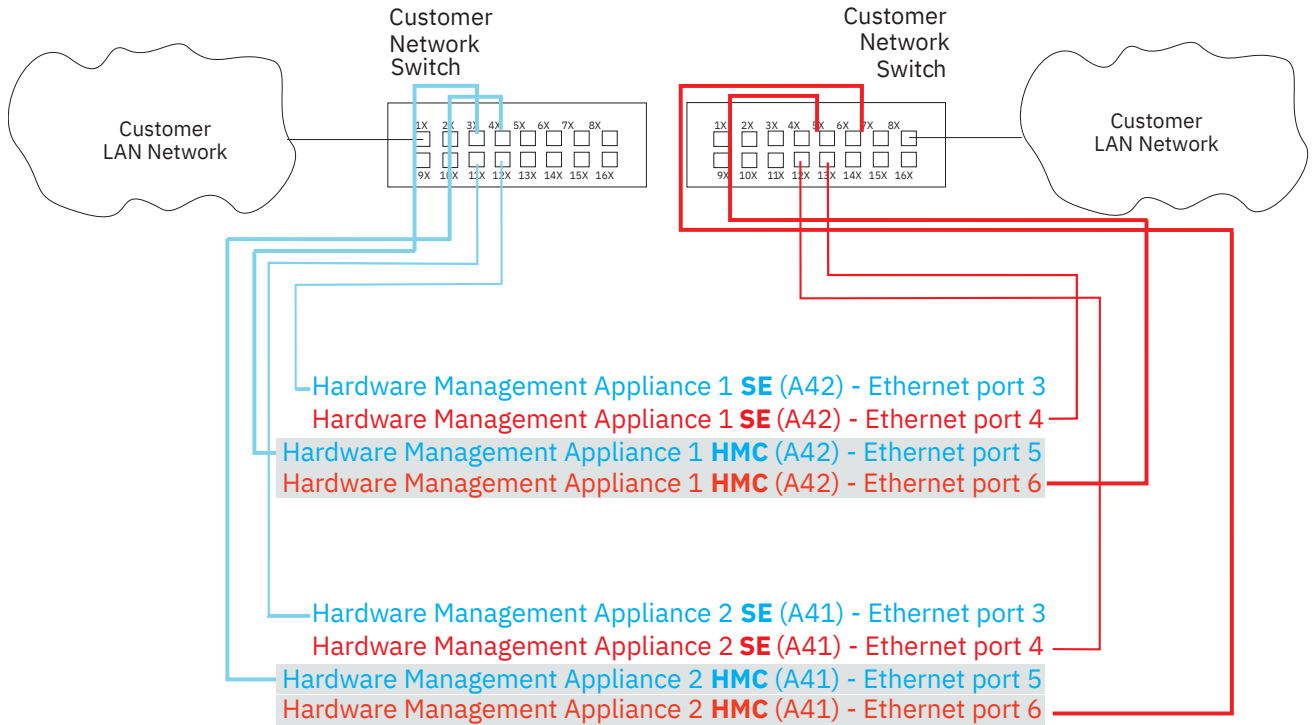

Figure 25. Two-switch configuration with Hardware Management Appliance (FC 0129)
If the Hardware Management Appliance feature (**FC 0129**) is ordered on the 3931, the dual 1U servers function as a Support Element (SE) and a Hardware Management Console (HMC). See Figure 25 on page 125 for network connection requirements.